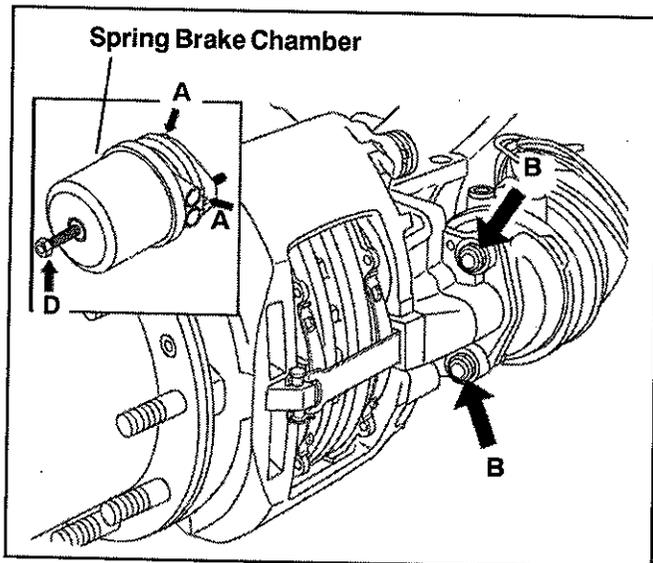

FIGURE 10 - SPRING BRAKE INSTALLATION
2. While supporting the spring brake chamber in position, remove and discard brake chamber mounting nuts (see Figure 10, arrows B). Remove the spring brake.
**NOTE:** New spring brake chambers have drain plugs installed (see Figure 10, arrows A). After installation, remove whichever plug is at the lowest position to ensure all water will drain from the spring brake chamber. Be sure that all other drain holes remain plugged. The drain hole must be aligned downwards (or within  $\pm 30^\circ$ ) when installed on the vehicle.